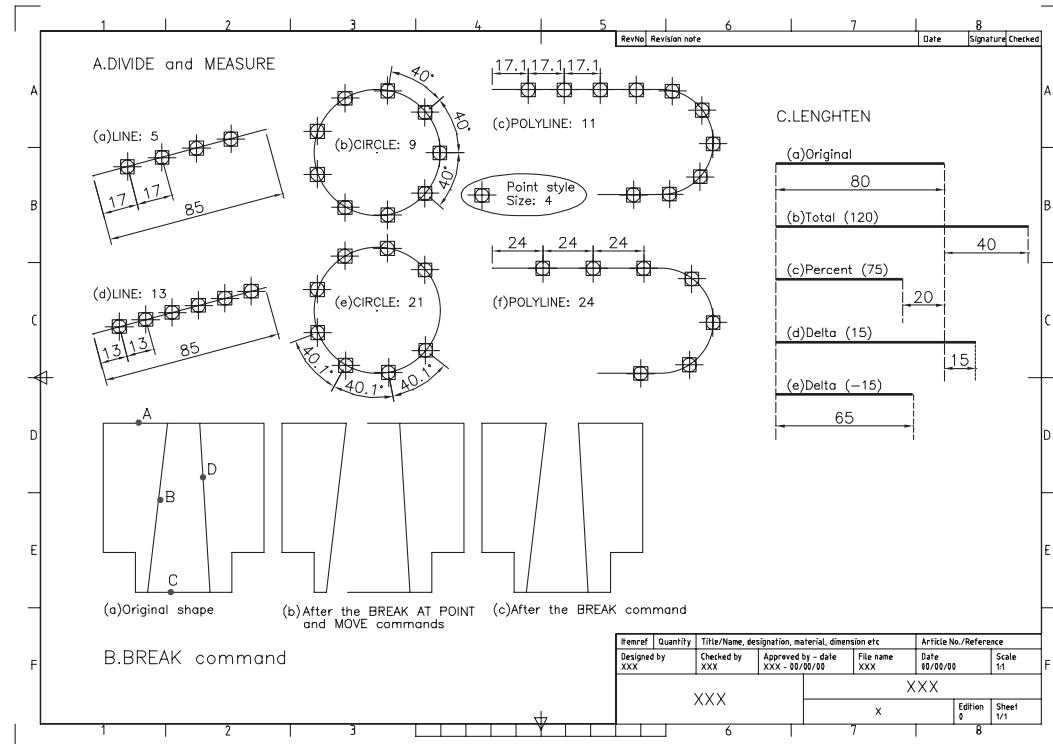

Figure 21.1 Using the DIVIDE, MEASURE, BREAK and LENGTHEN commands.
- 3 Refer to Figure 21.1 and:
- 2 a) Continue with Figure 21.1